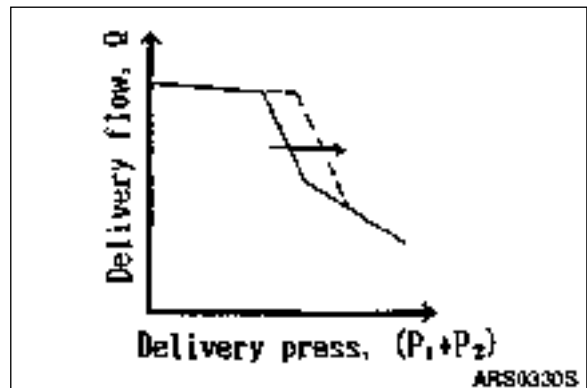

Figure 28
Adjust it by loosening the hexagon nut (630) and by tightening (or loosening) the adjusting screw C (628). Tightening the screw shifts the control chart to the right and increases the input horsepower as shown in the Figure 28. Since turning the adjusting screw C by N turns changes the setting of the inner spring, return the adjusting screw C1 (925) by Nx A turns at first.